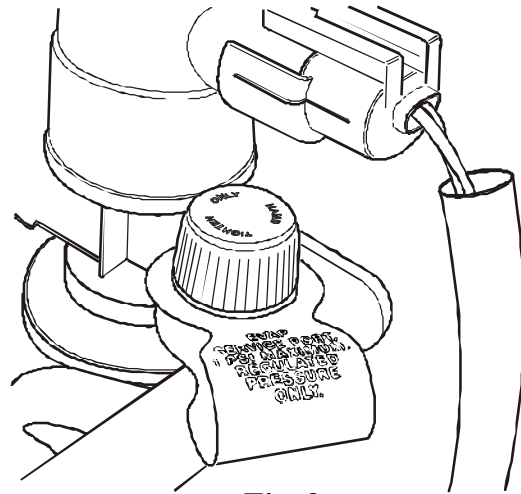
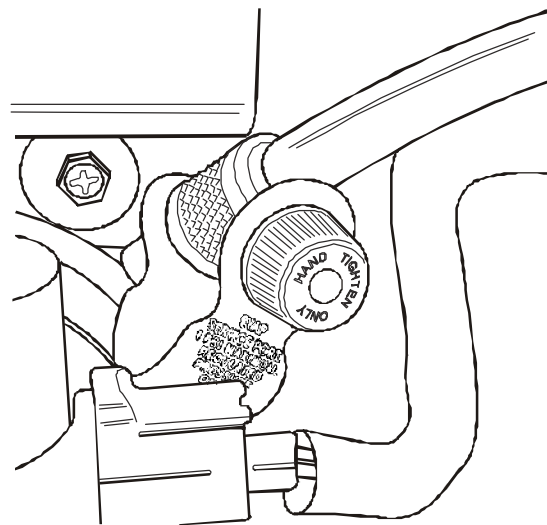

Fig. 9
Fig. 10
2. After completing Self-Test Instructions, locate Vehicle's EVAP Test Port Fitting Cap (fig. 9) and unthread it. Connect the KLI9210's Vehicle Interface Hose directly to the test port fitting (fig. 10) (This fitting is normally located under the hood of the vehicle and towards the fire wall. It can be located on either side of the vehicle. In most, if not all, cases the cap on the EVAP Test Port Fitting is green in color). **HAND-TIGHTEN ONLY!!**